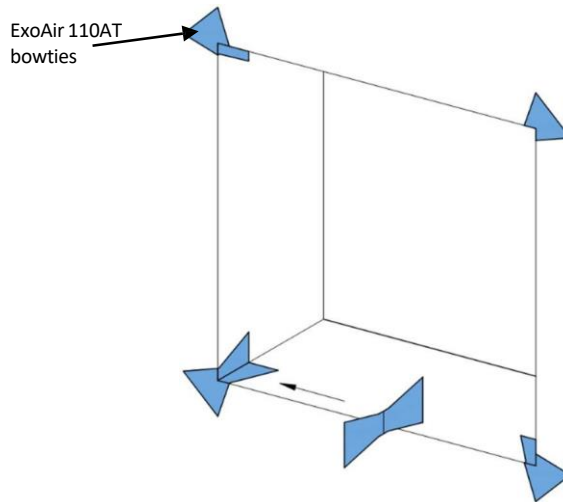

Fig. 13
- a. Cut ExoAir 110AT into bowties/hourglasses or other acceptable shapes and install in all corners. – Figure 13.